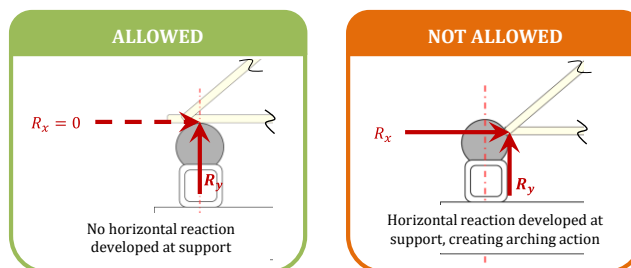

Figure 1: Bearing condition requirements to avoid arching
- Reactions at the supports are to be vertical only; at no time may the bridge contact the vertical members of the loading frame –see Figure 1 below. The horizontal reaction initiated by such contact has been judged atypical of “truss” bridge behavior, and more characteristic of an “arch” bridge. Bridges exhibiting this arch type behavior at any point during testing will be disqualified.